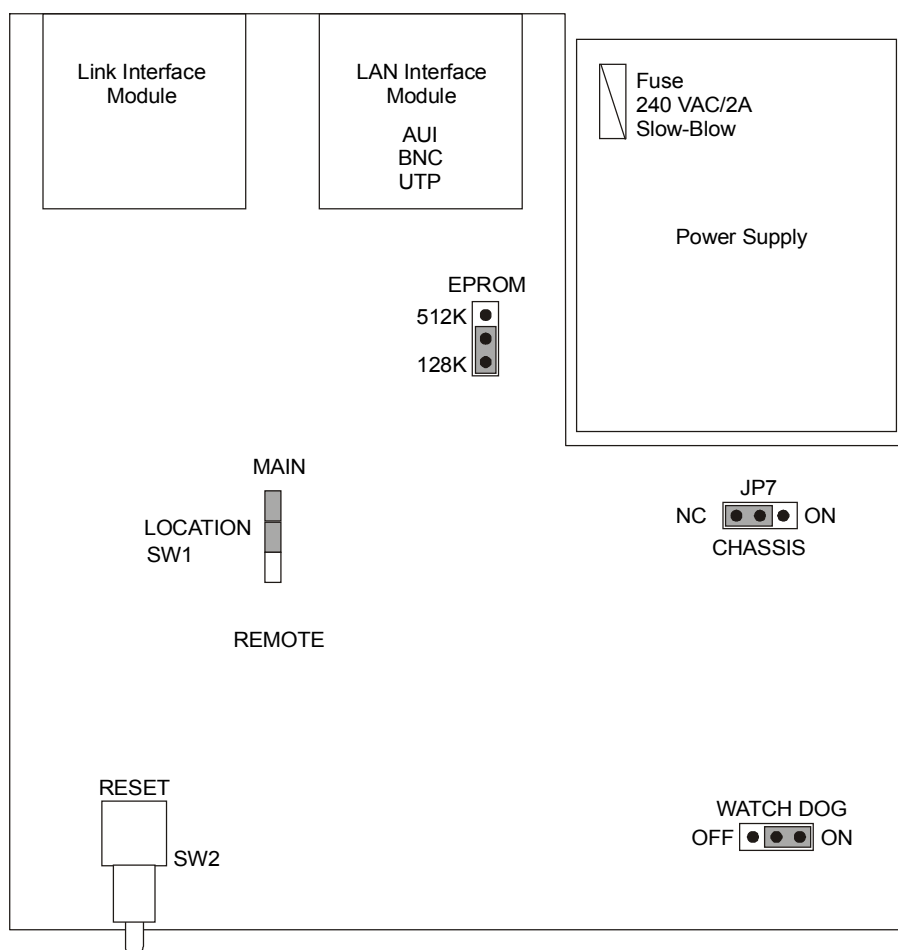

Figure 2-1. MBE PCB Layout
Figure 2-1 illustrates the layout of the MBE printed-circuit board.
6. Set the Chassis GND Jumper Setting (JP7) between the signal ground and the chassis (protective) ground (see *Figure 2-1* and *Table 2-1*):